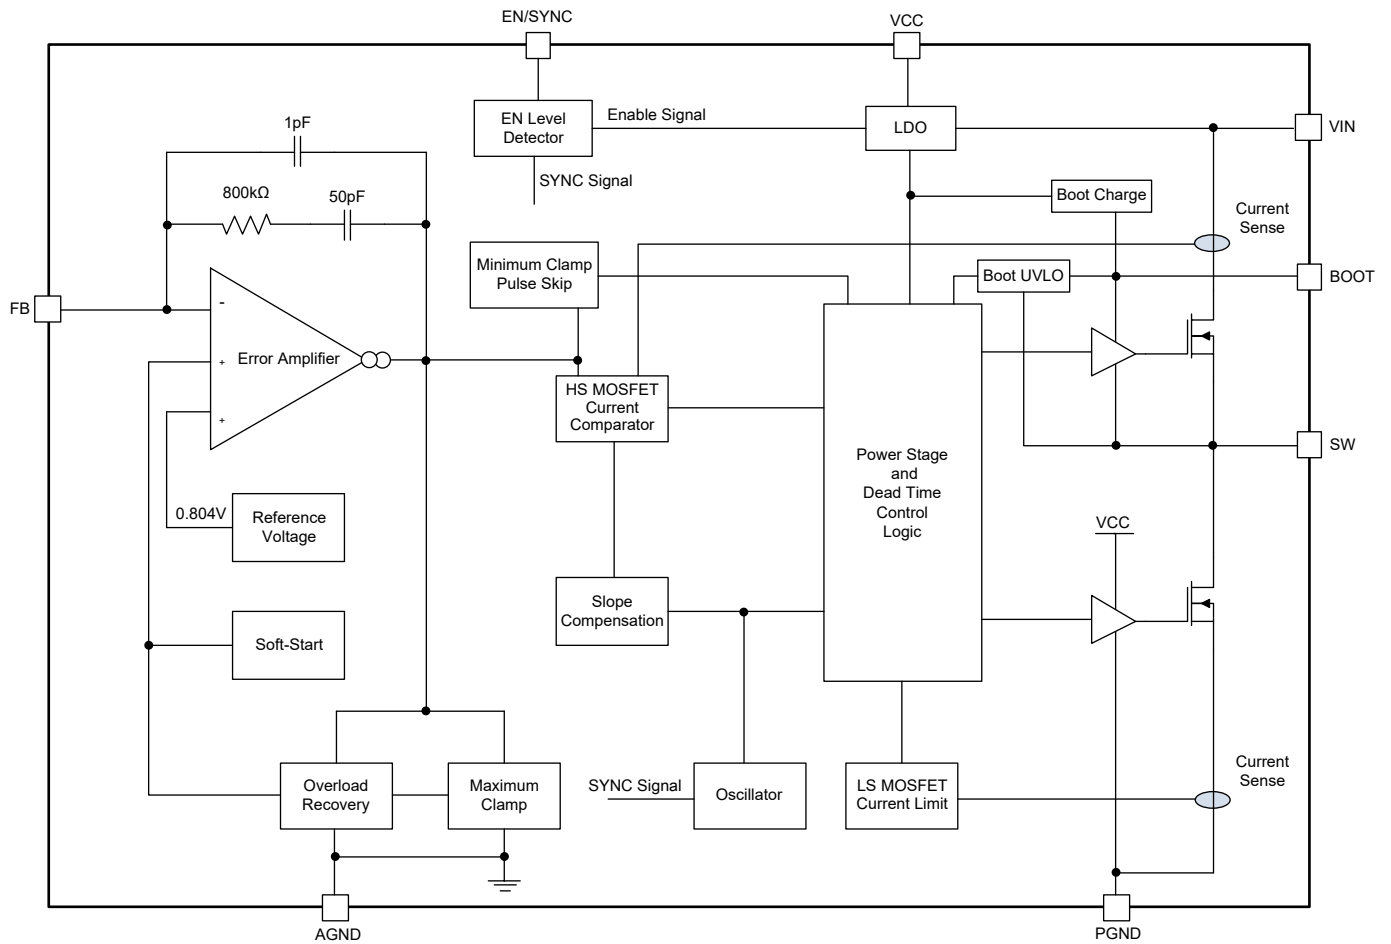
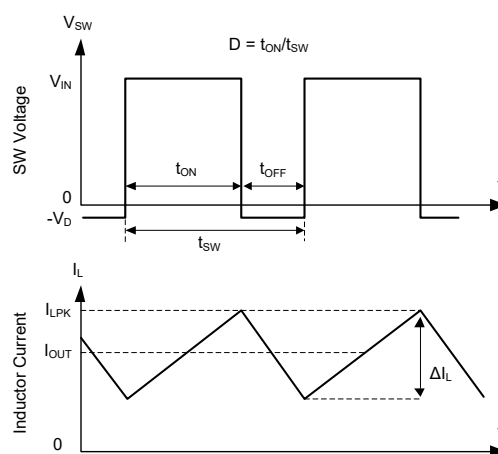
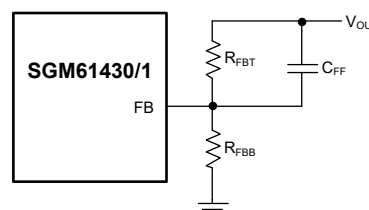

Figure 2. Block Diagram
Figure 3. Converter Switching Waveforms in CCM
Figure 8. Improving Loop Compensation by Feed-Forward Capacitor
The Functional Block Diagram and basic waveforms of these Buck synchronous converters are shown in Figure 2 and Figure 3. The N-MOSFETs are used for high-side (HS) and low-side (LS) (synchronous rectifier) switches. The HS duty cycle ( $D = t_{ON}/t_{SW}$ ) is controlled in closed loop to regulate and maintain the output voltage at a constant level. The switching period is  $t_{SW} = 1/f_{SW}$ , and the HS on-time is  $t_{ON}$ . When HS is turned on, the SW node voltage sharply rises towards  $V_{IN}$ , and the inductor current ( $I_L$ ) starts ramping up with  $(V_{IN} - V_{OUT})/L$  slope. When HS is turned off, the LS is turned on after a very short dead time to avoid shoot-through, and  $I_L$  ramps down with  $-V_{OUT}/L$  slope. When the inductor current is continuous (either due to sufficient load or FPWM), the output voltage is proportional to the input voltage and duty cycle ( $V_{OUT} = D \times V_{IN}$ ) if component parasitics are ignored.
The SGM61430 and SGM61431 are internally compensated (see Figure 2) and are stable over the entire  $f_{SW}$  and  $V_{OUT}$  operating range. However, the phase margin can be low for some ranges of  $V_{OUT}$  when low ESR ceramic capacitors are used in the output. In such cases, it is recommended to use a feed-forward capacitor ( $C_{FF}$ ) in parallel with the  $R_{FBT}$  to improve the transient response as shown in Figure 8.
The HS switch over-current protection is natural in peak current mode control. In each cycle the HS current sensing starts a short time (blanking time) after it is turned on. The slope compensation ramp is deducted from the EA (Error Amplifier) output to avoid sub harmonic oscillations and the result is compared to the HS current to determine the HS turn-off time (on-time). See Figure 2 for details. Before comparison, the EA output is clamped to a fixed maximum threshold ( $I_{HS\_LIMIT}$ ) to limit the current. So, the peak current limit of the high-side switch is not affected by the slope compensation and remains constant over the full duty cycle range.
An external resistor divider is used to set the output voltage as shown in Figure 8. Use Equation 13 to set VOUT: